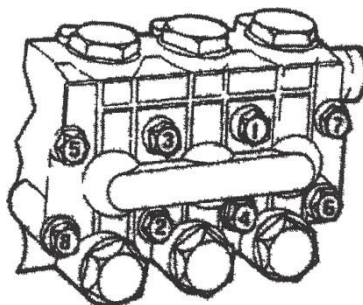

Figure 22: Manifold head torque sequence
- b. Torque all cap bolts to 5 foot-pounds in the sequence shown in Figure 22.
- c. Torque all cap bolts to 10 foot-pounds in the sequence shown in Figure 22.